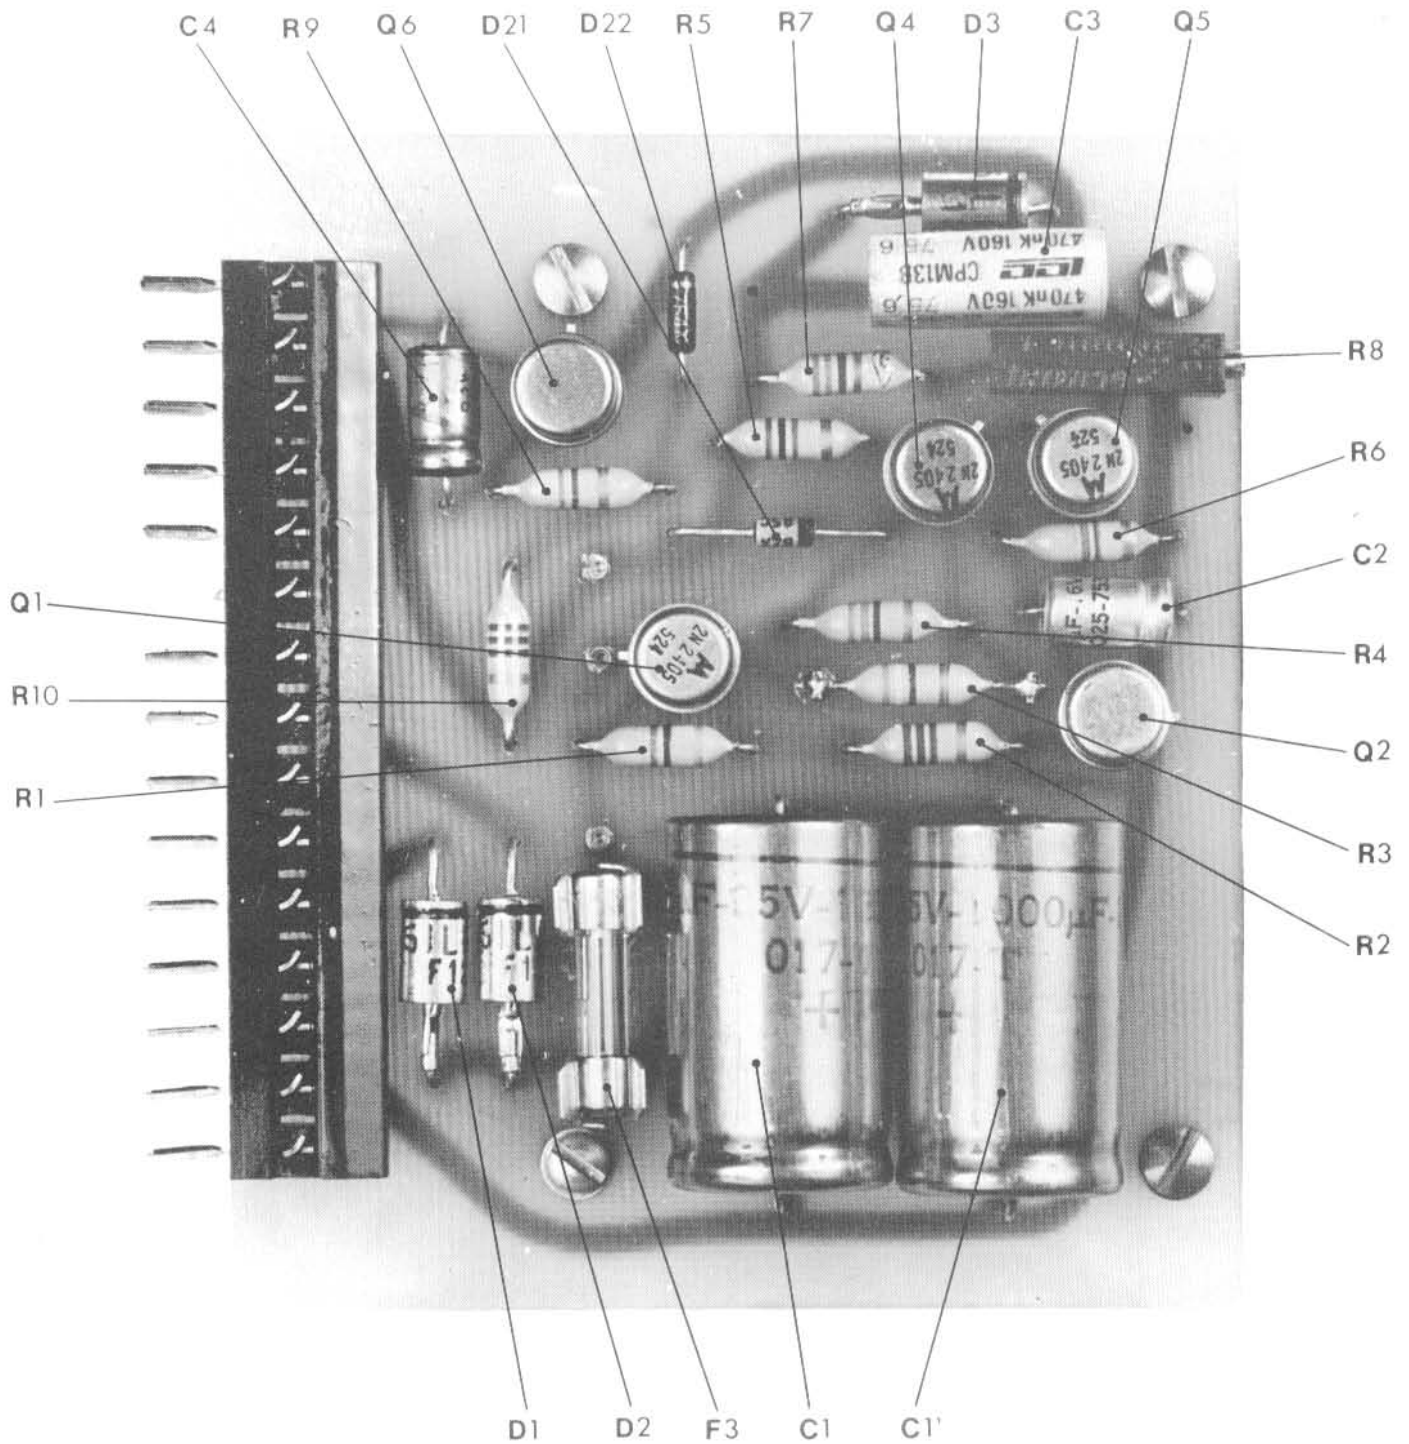

Figure 12 - Filament printed-circuit board.
- 1) 6.3 V Filament-supply board (see Figure 12).